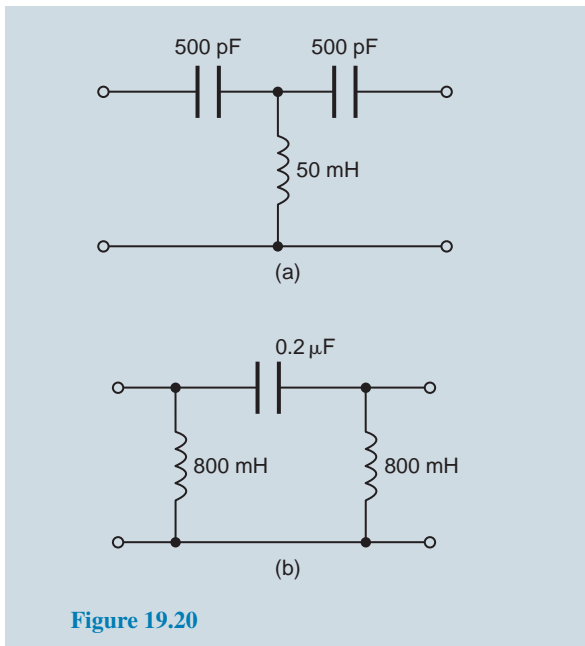

Figure 19.20
- Determine the cut-off frequency and the nominal impedance of each of the high-pass filter sections shown in Fig. 19.20.